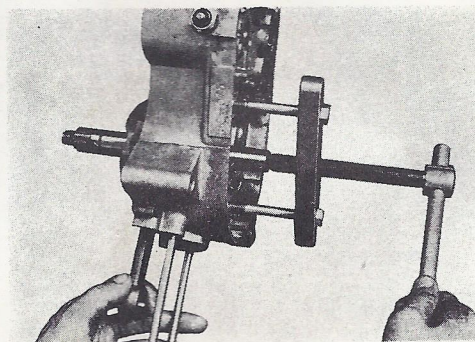

Fig. 3-16-3
- a. Remove the crank ass'y with crank case disassembling tools, (Fig. 3-16-3)